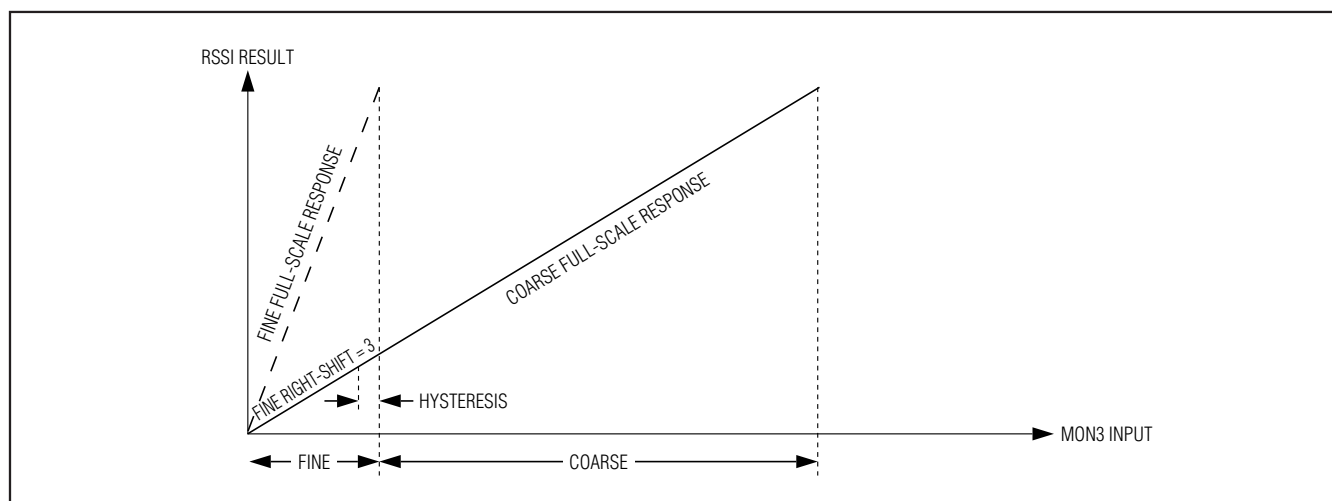

Figure 9. RSSI with Crossover Disabled
- **Crossover Disabled:** The crossover disabled mode is intended for systems with a linear relationship between the MON3 input and desired ADC result. The ADC result transitions between the fine and coarse ranges with hysteresis (Figure 9). In crossover disabled mode, the thresholds between coarse and fine mode are a function of the number of right-shifts being used. With the use of right-shifting, the fine-mode full scale is programmed to (1/2ⁿ) of the coarse-mode full scale. The device now auto ranges to choose the range that gives the best resolution for the measurement. Table 4 shows the threshold values for each possible number of right-shifts.